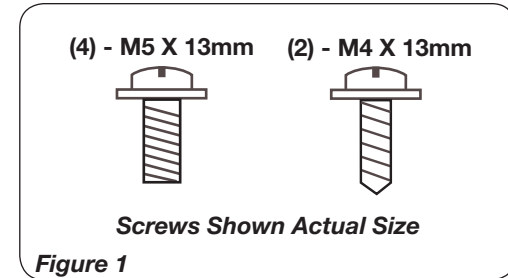

Figure 1
ASSEMBLY (Figures 1 through 5)
3. When the Heater is initially plugged in, there will be a "beep" and the **Power Light** will come on indicating that there is power to the unit. The **Power Light** will remain lit until the Heater is unplugged from the electrical outlet. (Figure 1)
6. Upon turning the Heater on, the unit will be in HIGH heat (⏻) (1500 Watts) and will display the current room temperature. (Figure 1)